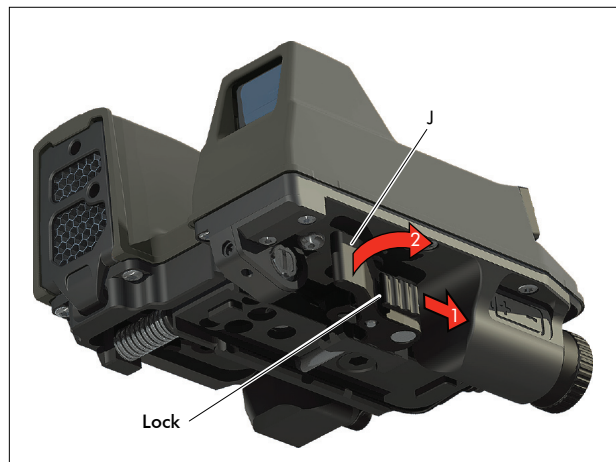

Fig. 3.a - Open the lever (J)
- Pull the lock backwards to unlock the lever (J) (see Fig. 3.a).
- Open the lever (J) (see Fig. 3.a).
- Position the FN[®] FCU Mk3 onto the top rail of the rifle (lug on the FN[®] FCU Mk3 between lugs N° 3 and 4 of the top rail) (see Fig. 3.b).
- Close the lever (J) to lock the FN[®] FCU Mk3 onto the rail, making sure that the clamp (H) is positioned correctly (see Fig. 3.b).
- Push the lock forwards to lock the lever (J) in position.